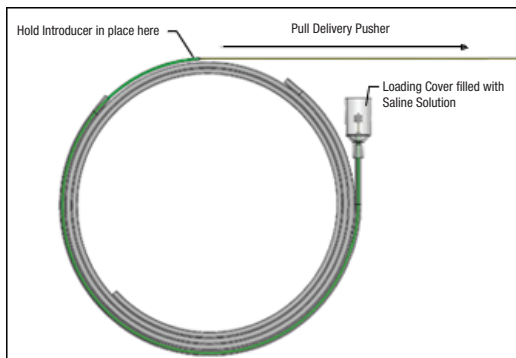

Figure 5 – Pull Delivery Pusher in Proximal Direction to Retract Implant
16. With one hand securing the green introducer, grab the delivery pusher and gently pull proximally to begin retracting the implant, See Figure 5.